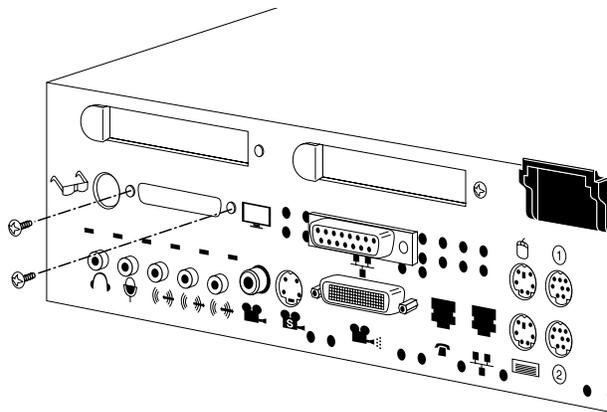

Figure 2-5 Securing the Z Board to the Rear of the Workstation
8. Insert two screws through the rear of the workstation, as shown in Figure 2-5.